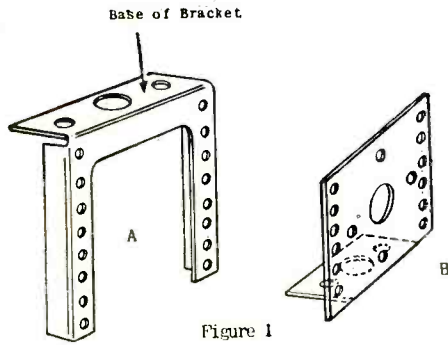
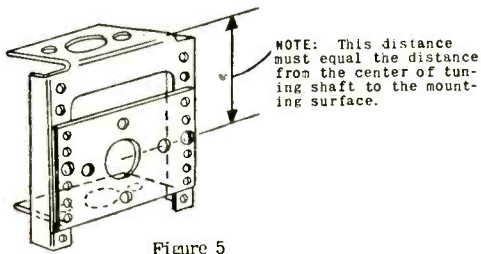

Figure 1
Figure 5
- B. Place brackets of Figure 1 together to form complete mounting brackets as shown in Figure 5.
4. Mount the Motor Assembly to bracket B (Figure 1) and secure with two #8 screws and lock washers . . . into the mounting studs of the Motor Assembly.